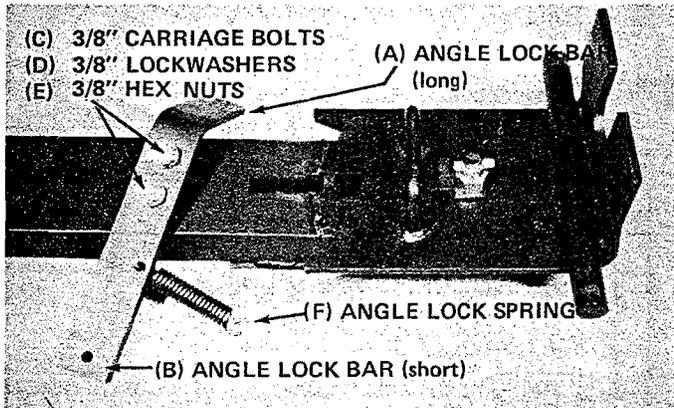

FIGURE 2
3. Assemble hook of angle lock spring into hole of bracket under pivot bolt. Pull lock bars up to extend spring just enough to allow assembly of angle lock bars down through slot in pivot bracket and channel. See figures 2 and 3.